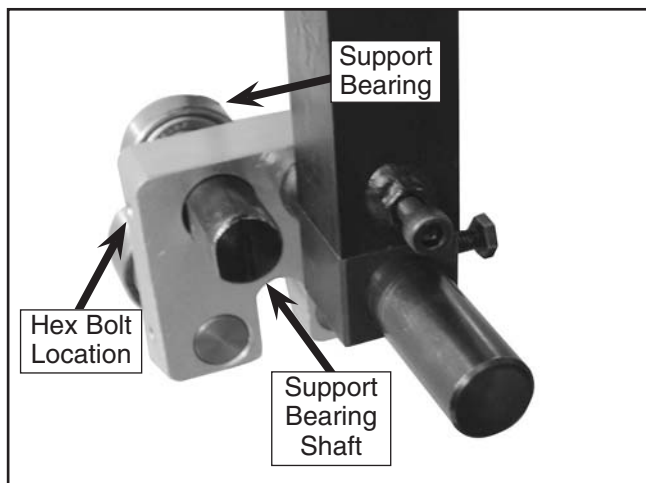

Figure 26. Support bearing detail.
3. Familiarize yourself with the support bearing detail shown in **Figure 26**.